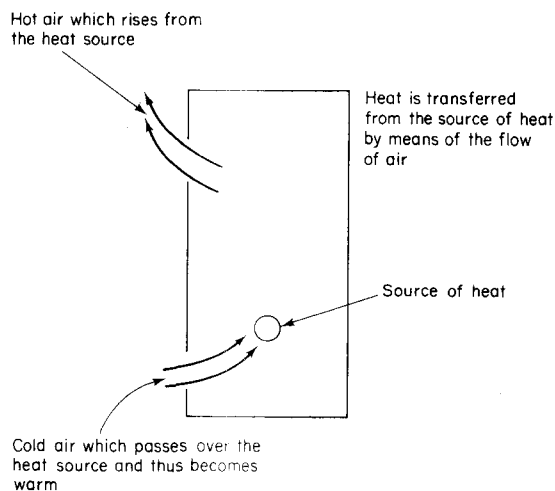

Fig. 2.56 Convected heat
3. **Convection** (Fig. 2.56). If cold air is passed over a heating element it gets warmer. As the air is heated it